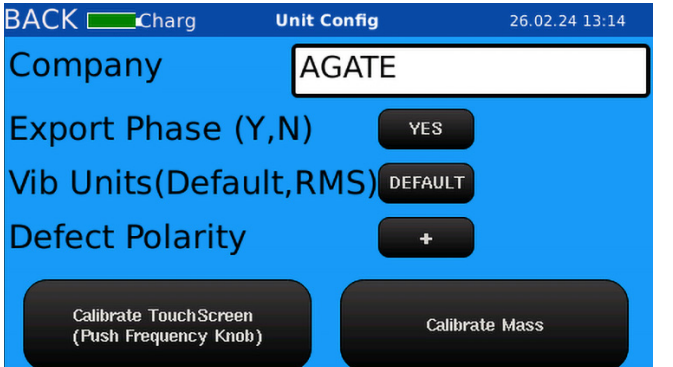

Figure 70. Select the + button
- 2. Select the **+ button** to change the signal polarity to positive (*Figure 70*).